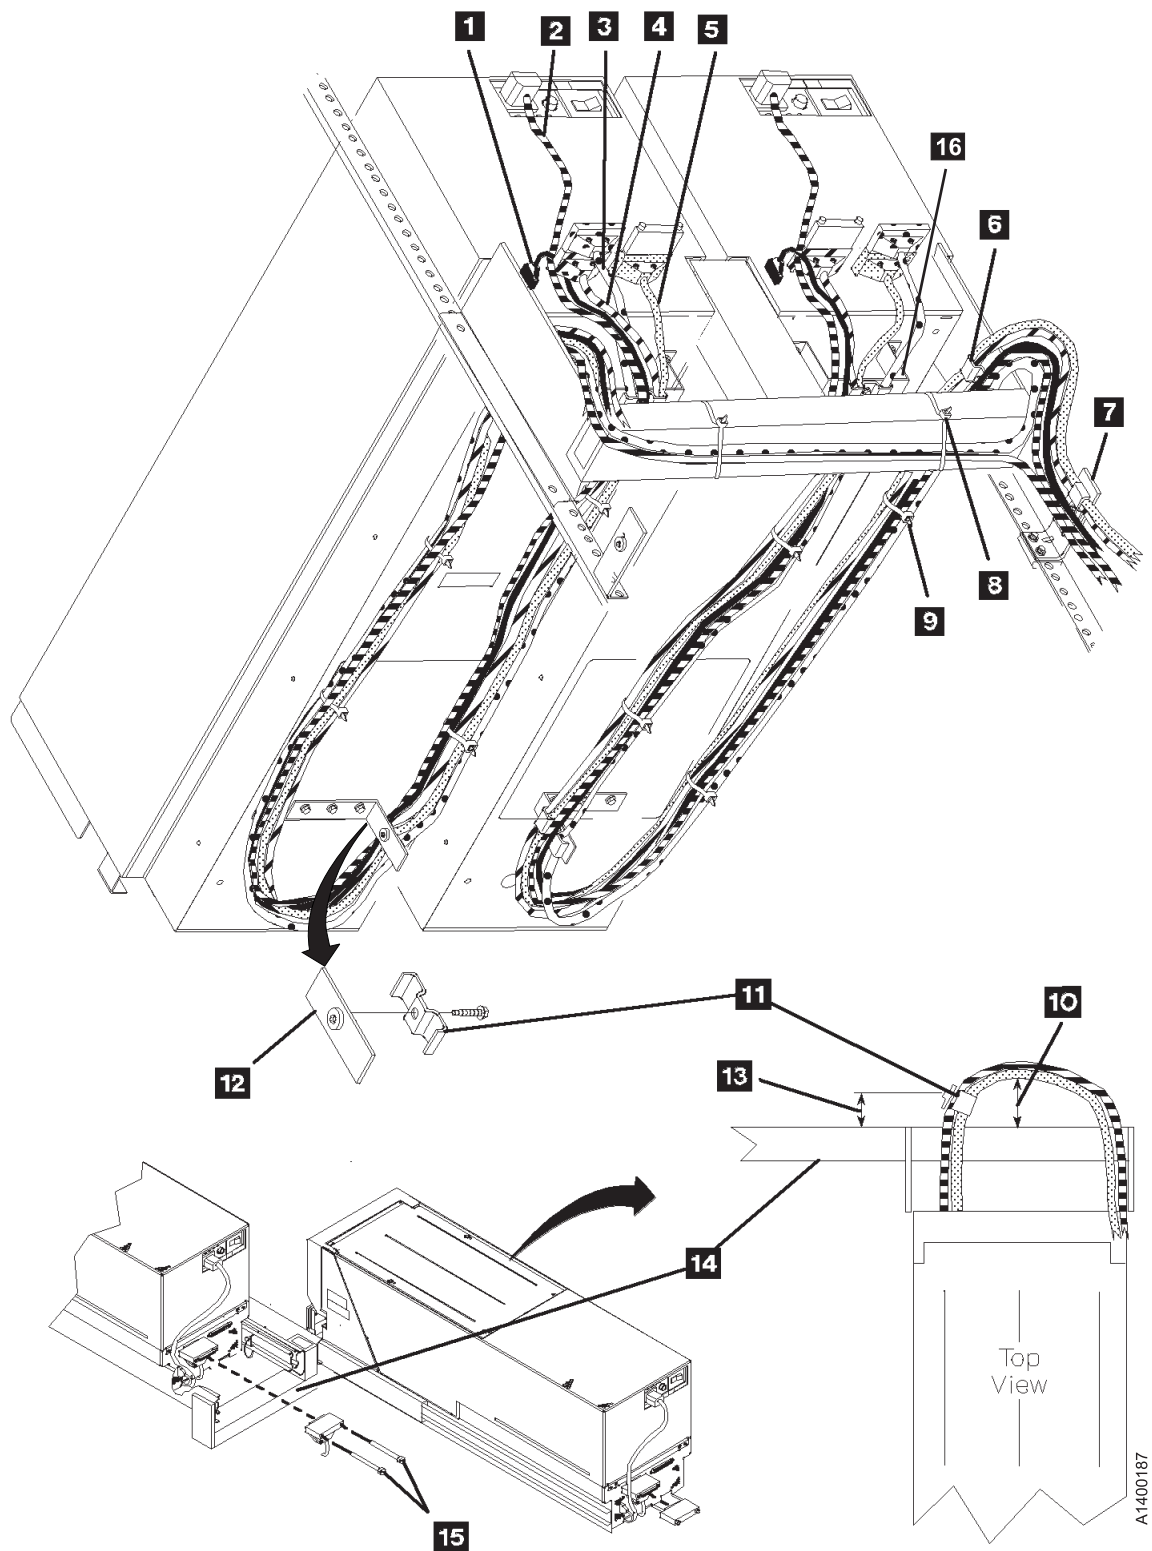

Figure 8-37. Cable Routing
- ___ 2. See Figure 8-37 on page 8-63. Connect the SCSI cables and terminators to the ports on the 3590s. Use screws P/N 05H8983 **15**. One screw is in the ship group and one screw is attached to each cable.